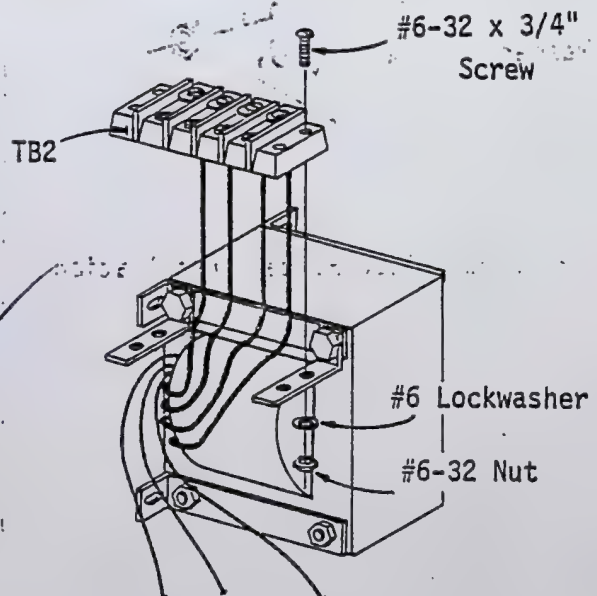

Figure 5-57. Terminal Block Mounting
5. Mount the terminal block to the "L" brackets on the transformer using four #6-32 x 3/4 inch screws, four #6-32 nuts and four #6 lockwashers (Figure 5-57).